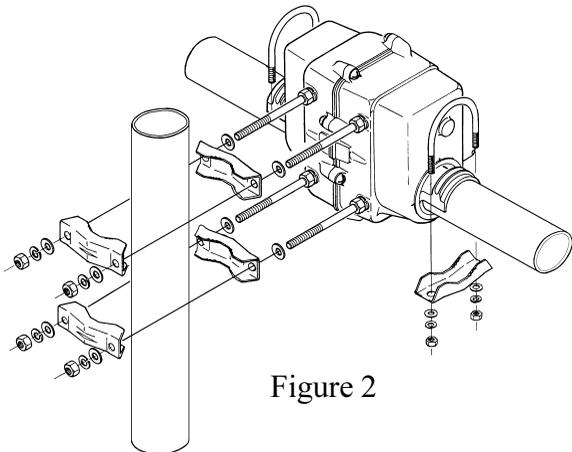

Figure 2
2. Slip an 8mm flat washer over each installed stud bolt, and then the pipe clamps, as shown in Figure 2. Place another flat washer and then spring washer over the end of each stud bolt, and start a nut on each to hold the hardware in place.
4. Place one U-bolt over each arm of the rotator, and assemble one pipe clamp, flat washers, spring washers and nuts on the U-bolts as shown in Figure 2. Center the boom carefully, and alternately tighten the nuts on each U-bolt 1/2-turn beyond the point where the spring washers are flattened.